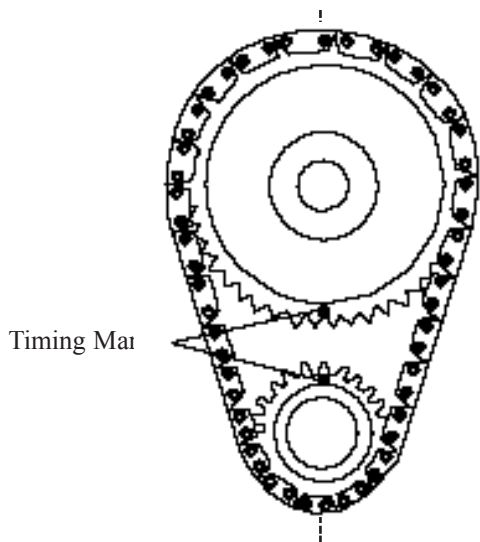

Figure 1
13. Rotate engine until timing marks are aligned as shown in Figure 1.
CAUTION: Use Edelbrock Performer-Plus True Rolling Timing Chain and Gear Set #7813. Do not use late model timing chain & gear sets that are designed in a retarded position and are not recommended for this camshaft installation. Edelbrock Timing Sets feature three keyways for specific timing selection. Use locking compound material on the bolt threads holding timing gear to cam. Torque to factory recommendations specified in motor repair manual. Install camshaft with timing marks lined up as recommended by factory specifications. See Figure 1.